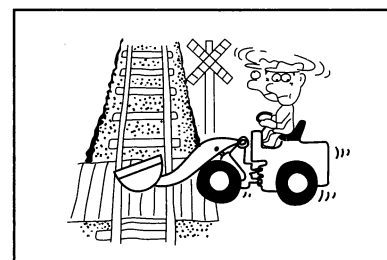

Figure1-33
- Understand all operating regulations and signals, operator must know the meaning of every signal and sign at the first glance. (Figure 1-33)